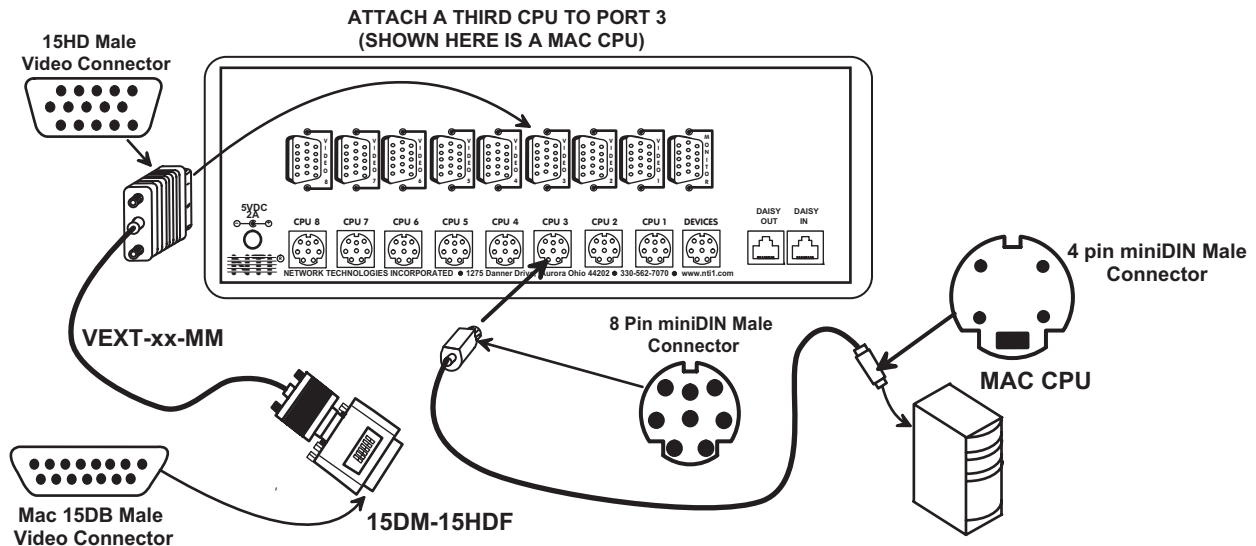

Figure 9- Connect a MAC CPU
•**MAC CPU-** Connect a MAC CPU video port using a VEXT-xx-MM cable with a 15DM-15HDF adapter between a VIDEO x port on the ST-xU and the CPU. Connect the SUN CPU keyboard/mouse port using an SKTINT-xx-MM between a CPU x port on the ST-xU and the CPU. (See Fig. 9.)